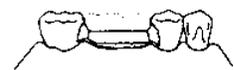

Fig. 1
3. Pour the model. Cut the bar to the desired length. Affix it to its retainers with sticky wax in the most advantageous position considering tooth placement and ridge contour (Fig. 1). The bottom of the bar may be relieved to follow the contour of the adjacent gingival papilla.